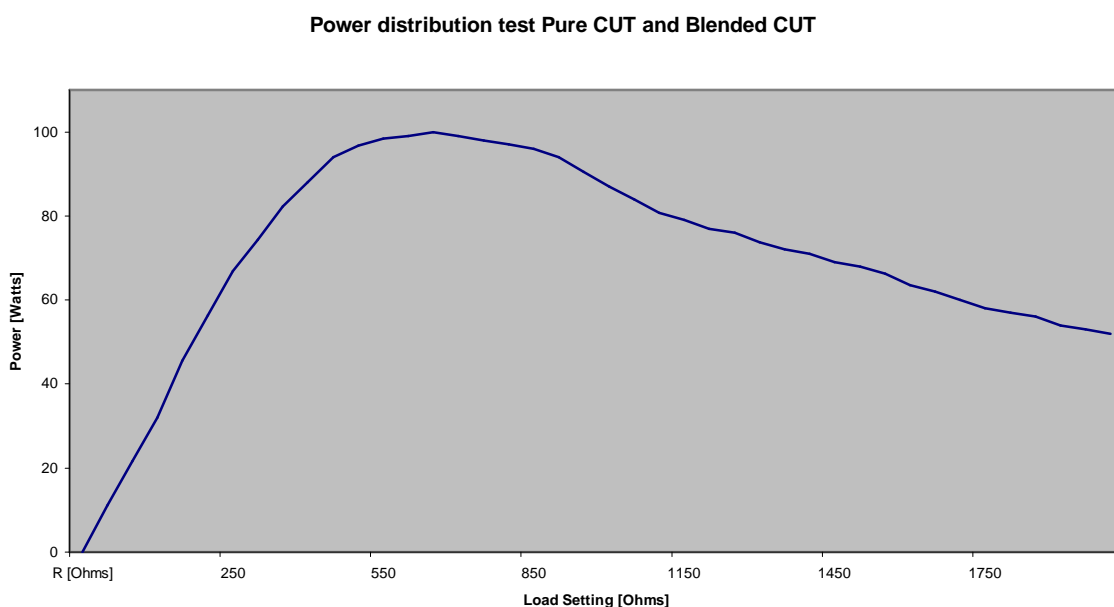
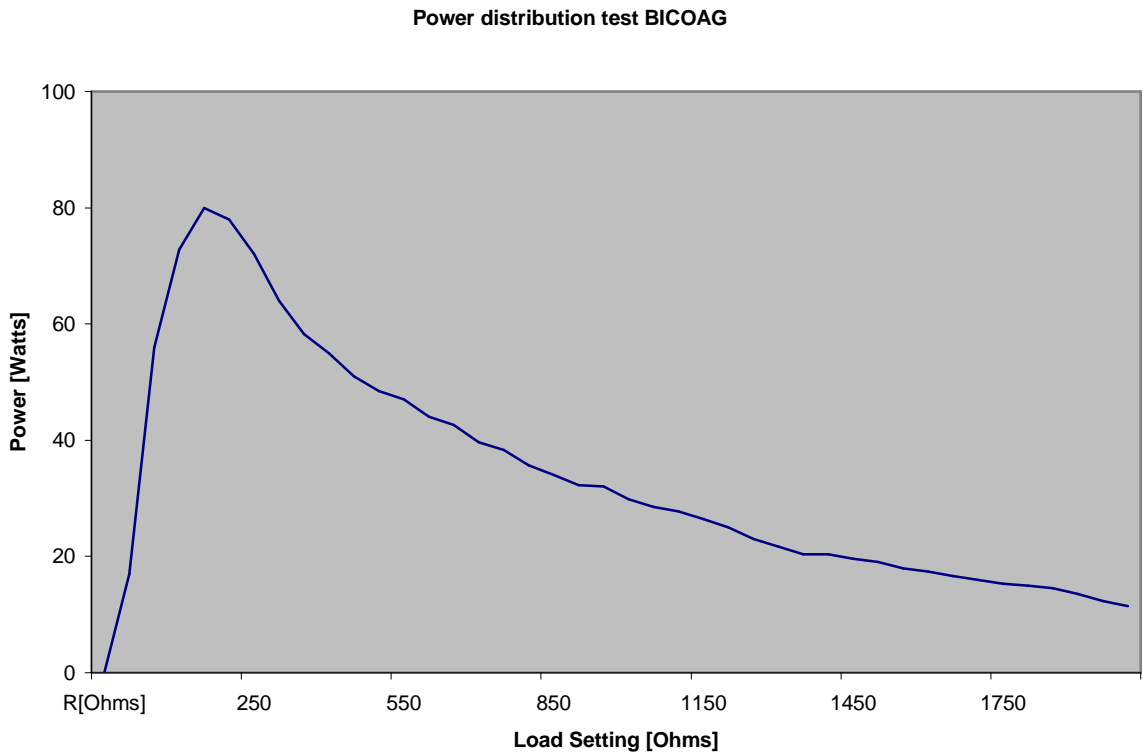

Fig.1
Fig.3.
- During the real operation the output power is changed automatically depending of the actual electrical resistance of the tissue between the active and neutral electrodes. This dependency is analyzed by so called Power Distribution Test (see the diagrams on fig.1 – fig.3). When the surgeon makes the output power setting, in fact he sets the maximal output power, which the unit can give at the characteristic tissue resistance (at about 500 Ohms, 300 Ohms or 100 Ohms for the different working modes of the model KENTAMED 1E).